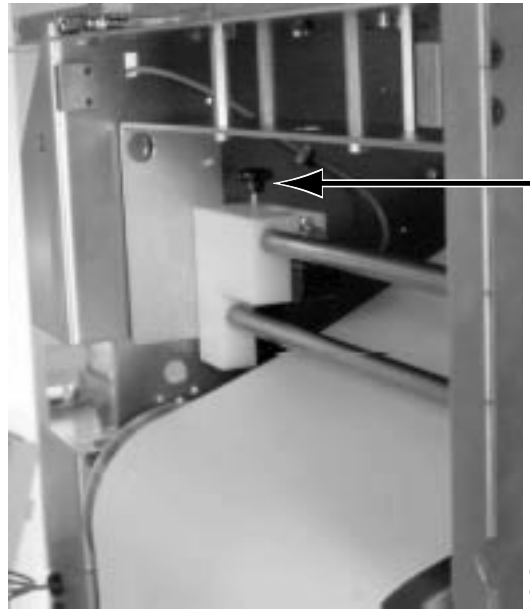

Figure 194. Web Alignment Sensor
6. Loosen the thumb screw at the top of the white mounting block, as shown in Figure 194.